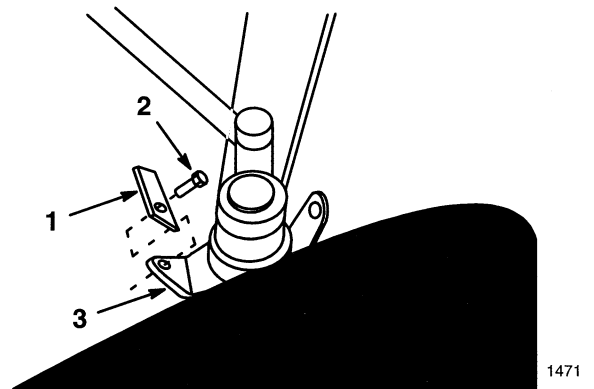

Figure 8
6. Install steering spindle stops in front of the rear tab on front wheel spindles (Fig. 8). Align so stops contact the axle during tight turns and wheels do not contact the frame. Secure with self tapping screw (Fig. 8).